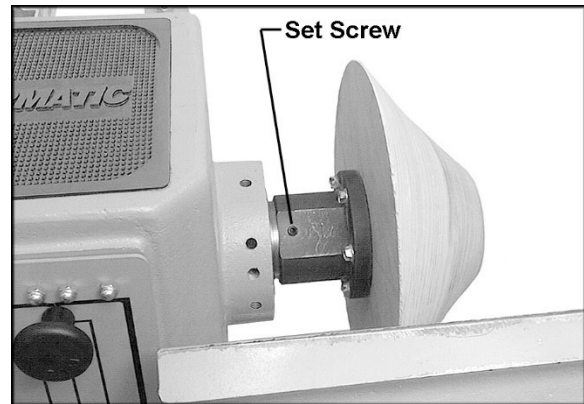

Figure 21
**⚠WARNING** If at any time you will be *reversing* spindle rotation, make sure the two set screws in the face plate are tight! One of these is shown in Figure 21. Failure to do this may cause the face plate to loosen from the headstock spindle.
5. To *remove* the face plate, loosen the two socket set screws (Figure 21). Engage the spindle lock button and turn the face plate counterclockwise with the face plate wrench, as shown in Figure 21.
**(B) Forward/Reverse**
**⚠WARNING** When turning with a face plate, make sure both set screws on the face plate are tight (see Figure 21) before reversing the spindle. Failure to comply may cause the face plate to spin loose from the spindle.
**(C) Speed Control Dial:** Always start the Lathe at the lowest speed, with the dial rotated all the way counterclockwise.